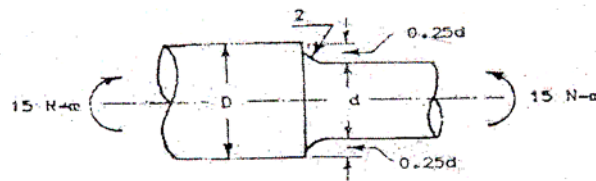
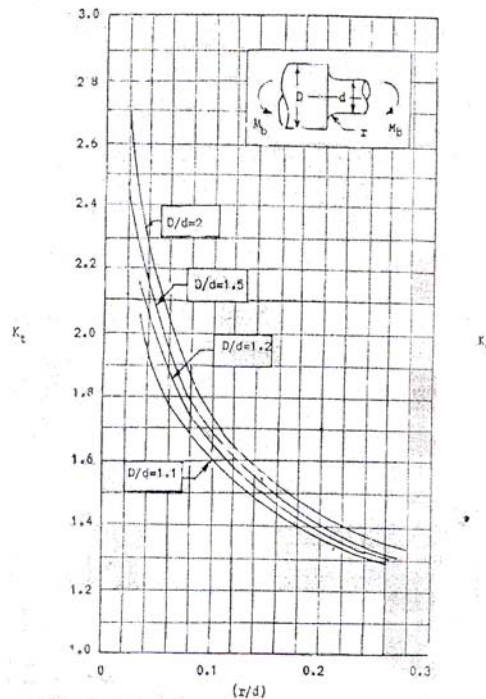

Figure 5
Figure 6
b) A round shaft made of brittle material and subjected to a bending moment of 15 N-m as shown in Figure 5. The stress concentration factor at the fillet is 1.5 and ultimate tensile strength of the material is 200 N/mm2. Determine the diameter  $d$ , the magnitude of stress at fillet and the factor of safety. Refer Figure 6 for related data. 8